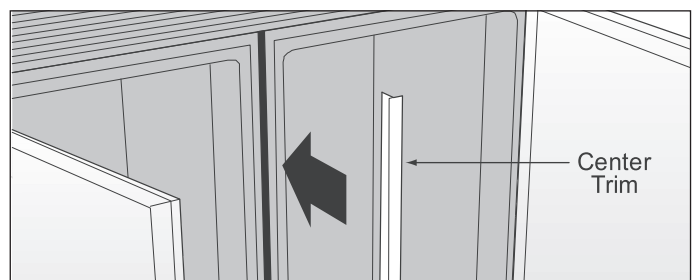

Figure 2-27.
2. Re-check the level of each unit. Depending on the flatness of your floor, you may need to readjust several times before achieving an acceptable state of levelness and alignment. Allow 3/8" gap between units for center trim (G or H). (See Figure 2-27).